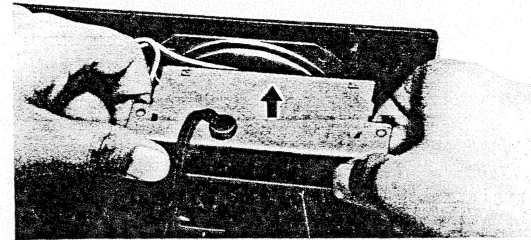

Fig. 2
3. Remove the chassis in the direction of arrow, as illustrated in fig. 2.